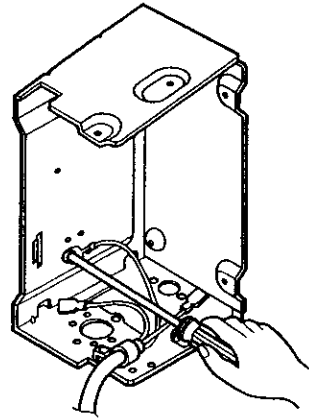

Figure 34
2. Disconnect the grounding screw from the control box.(See Figure 34)